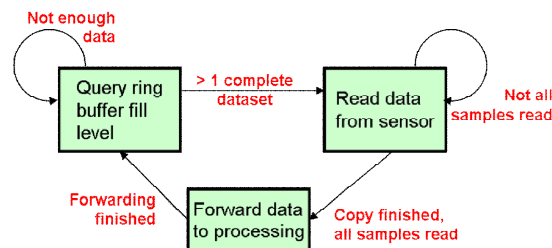

Fig. 2.2: Simplified data retrieval state machine for application
While a measurement is running, acquired data is stored in a device-internal ring buffer. The application is required to poll the buffer fill level and retrieve measured data, when one or more complete datasets are in the buffer. The HAL API provides corresponding functions. The application typically implements a state machine like in Fig. 2.2. If multiple sensors are measuring, the application may query and transfer data from the sensors subsequently. However, since the sensors produce data in fixed regular intervals, average retrieval speed of the application must be fast enough to avoid buffer overflows. The HAL API supports application timing in this regard by providing an (optional) threaded measurement mode where the data transfer to the computer is completely handled inside the HAL.
9. Retrieve measured data - repeat until enough data was read (compare Fig. 2.2)